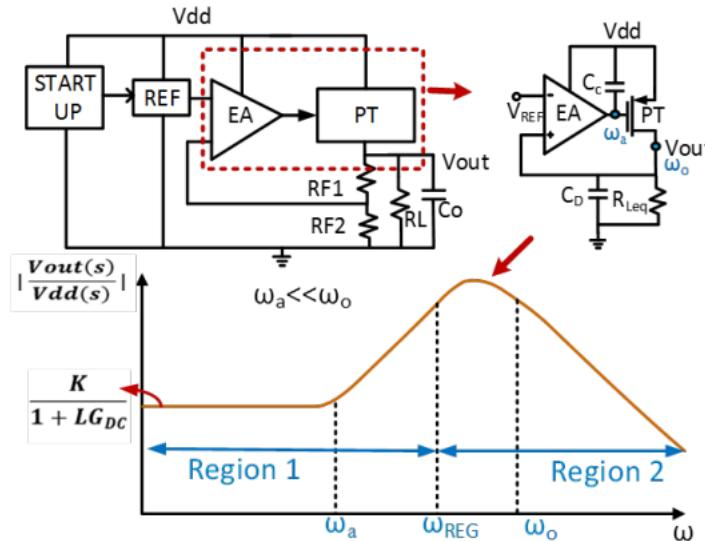

Figure 1: : Block diagram of a low drop-out (LDO) regulator and its associated PSRR curve (linear scale)
An LDO is a type of linear regulator, which can regulate output voltages to values very close to the supplied input voltage. The input to output differential voltage, at which the LDO fails to regulate the output is defined as the dropout voltage. The structure of a generic LDO is provided in the block diagram shown in Figure 1. An LDO consists of an error amplifier (EA), an NMOS or PMOS pass transistor (PT) and a resistor divider forming a negative feedback loop. The EA is fed with a constant reference voltage (V_{ref}) by a bandgap circuit and in turn controls the PT through the feedback loop and the resistor divider circuit. The EA tracks the error between the output and V_{ref} and accordingly regulates the gate voltage of PT. The PT acts as a variable resistor and adjusts the output current to further control the output voltage at the desired level.